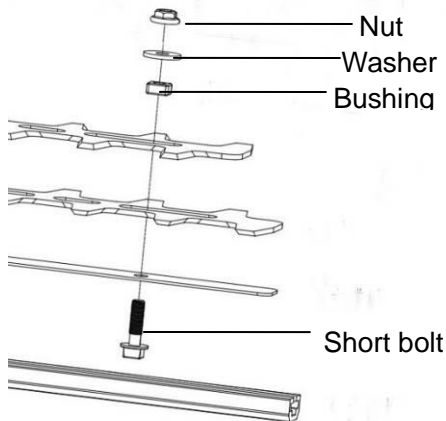

Fig.5A
1. Remove the nut, washer, and bushing from the bolt at the end of the blade with a hex wrench (not included) (Fig. 5A). Save them for reassembly.